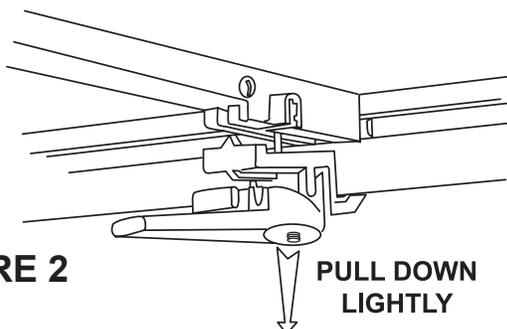

FIGURE 2
4. Tilt the handle/clamp assembly so that the locator is in the slot, pull down on the assembly, and slide the clamp under the edge of the inner lip of the bed rail. See Figure 2
4. Tilt the handle/clamp assembly so that the locator is in the slot, pull down on the assembly, and slide the clamp under the edge of the inner lip of the bed rail. See Figure 2.